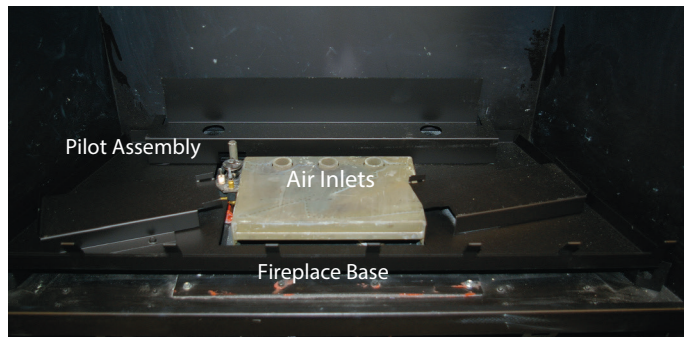
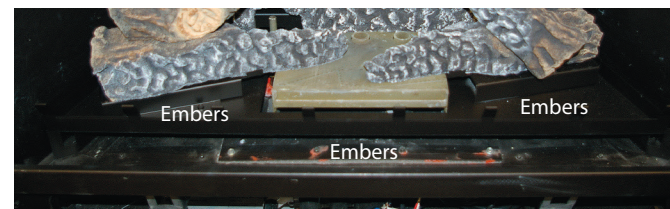

Figure 28a. H34DF\*s Fireplace Base.
Figure 28f. Placing Embers.
Step 7. Place the Embers as shown in figure 28f. Arrange the ember chips on top of the burner tray. Care should be taken when placing the embers, as blocked burner ports may cause an incorrect flame pattern, carbon deposits and delayed ignition. Also, the embers must NEVER be placed in a way that obstructs any of the air inlet ports, located at the rear of the burner, as shown in figure 28a.